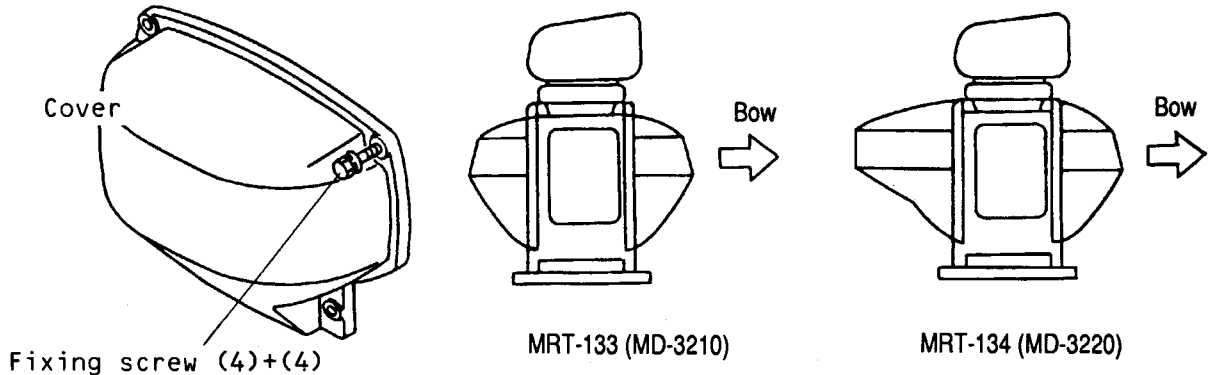

Fig. 5.1 MRT-133 and MRT-134
Referring to Fig. 5.1, loosen each four (total eight) fixing screws of the front and rear antenna covers, and remove covers.
- (1) Referring to Fig. 5.1, open the bow side antenna cover.
- (2) Remove all wires of E1 and E2. Disconnect connectors J1, J2, and J3, as well.
- (3) Remove four fixing screws and take out the board.
- (4) When new board is mounted, confirm that JUMPER wire is set to the same status of old board.